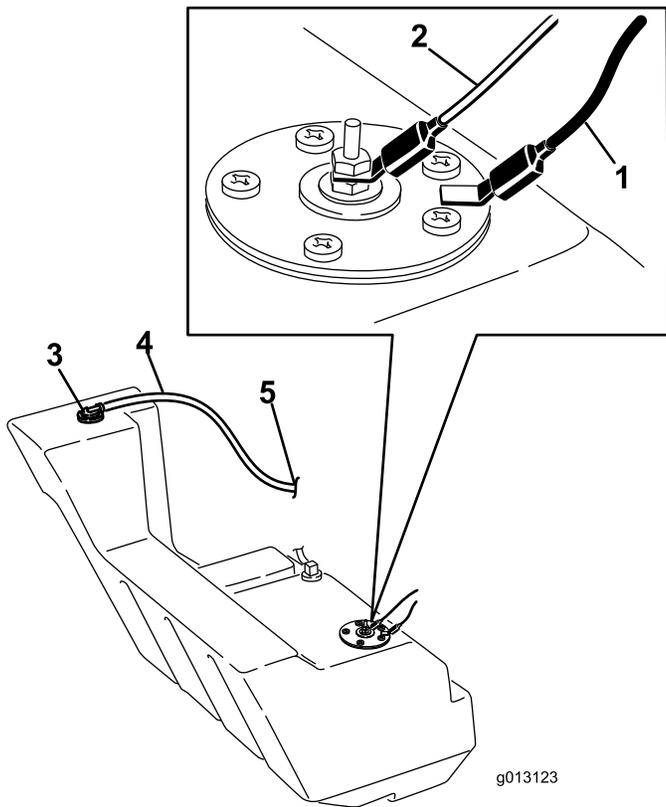

**Figure 65**
Using a flashlight, open the hood and inspect the area under the engine regularly. When the debris is 2.5 to 5 cm (1 to 2 inches) deep, complete the following procedure (refer to Figure 65 throughout this procedure):
5. Remove the bolts, washers, and lock washers securing the 2 side weights, removing the weights (Figure 65).
8. Remove the 6 nuts and bolts securing the rear panel; remove the panel (Figure 65).
10. Slide the fuel tank to the rear (Figure 65).
17. Slide the fuel tank part way into the chassis (Figure 65).
23. Replace the rear panel and secure it with the 6 bolts and nuts removed previously (Figure 65).
25. Install the side weights with the bolts, washers, and lock washers removed previously (Figure 65).